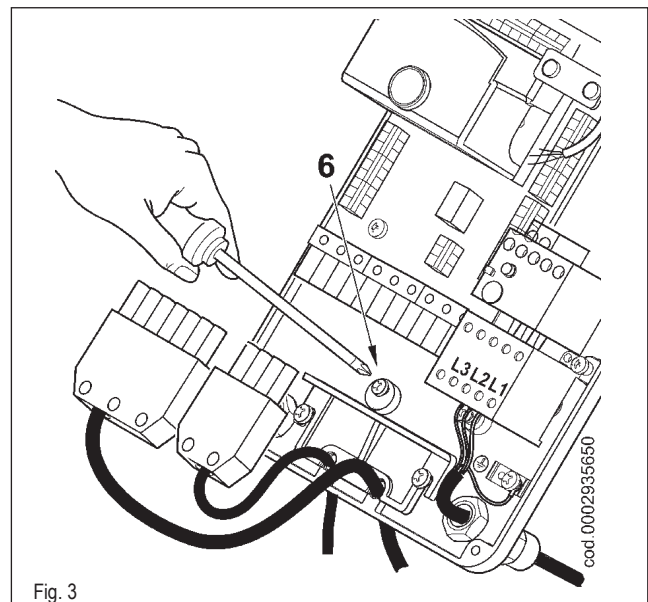

Fig. 3
- Reposition the cable float plate as in figure 3. Turn the cam (6) so that the float exerts sufficient pressure on the two cables, then tighten the screws that fasten the cable float. Finally, connect the two 7 and 4-pole plugs.